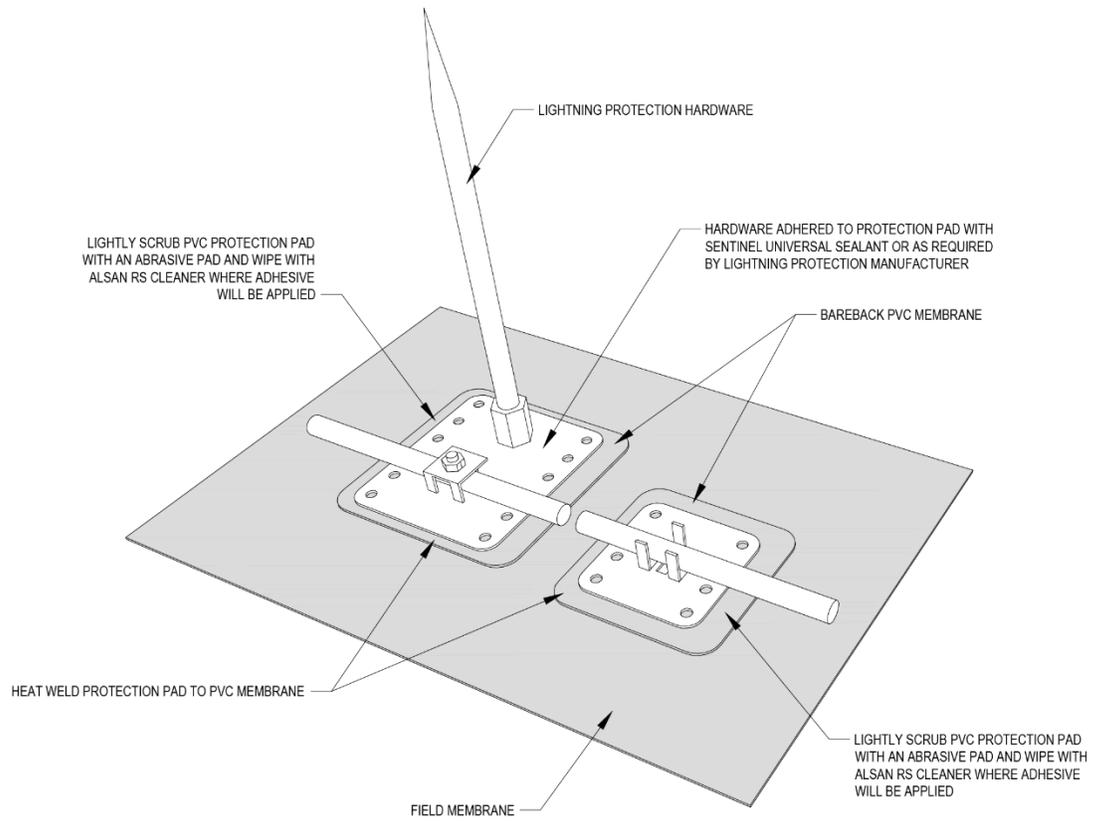

Figure 4.3b Sacrificial Protection Pads
- For equipment protection pads such as for lightning protection, refer to Figure 4.3b.